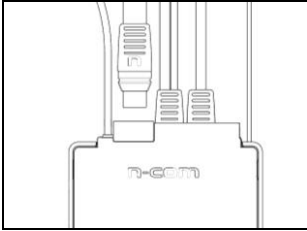

Fig. 37
- Line up the keypad flex connector to the e-box making sure that the letter “n” is pointing as shown in Fig. 37.
N.B. If the system does not work, remove the flex and repeat the previous operation, making sure that the “n” is positioned as in Fig. 37.